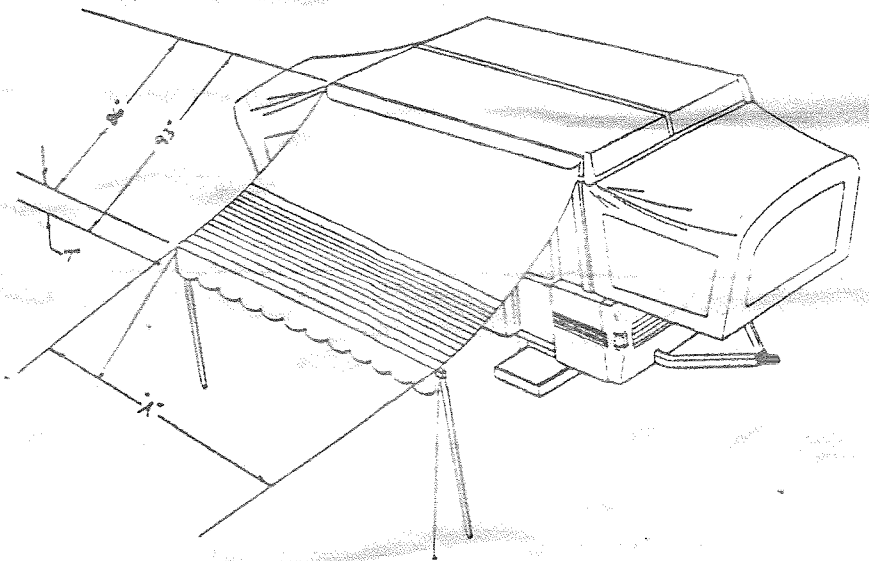

FIGURE 1
5. Swing the two adjustable support poles down from the underside of the canopy support channel. Drive the hook stakes (4724-255) into the ground to the sides of the support poles and place the loop formed by the rope adjuster over the stakes. Tighten ropes by pulling adjusters toward canopy. Raise the trailer top to full height and adjust poles and ropes as required. See Figure 1.